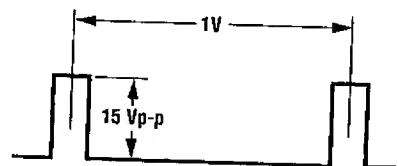

Figure 2.
12. Adjust Screen Control (T402) to obtain 15 Vp-p from black to white level. (See Figure 2.)